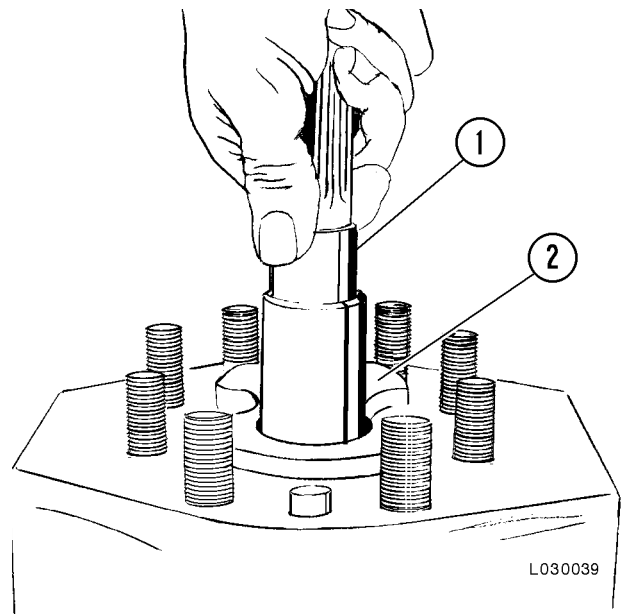

FIGURE 3-11. DRIVE GEAR REMOVAL
6. Grasp the drive gear shaft extension (1, Figure 3-11) and lift it upward to dislodge pressure plate (2). Grasp the plate between thumb and forefinger and lift it straight off the shafts.